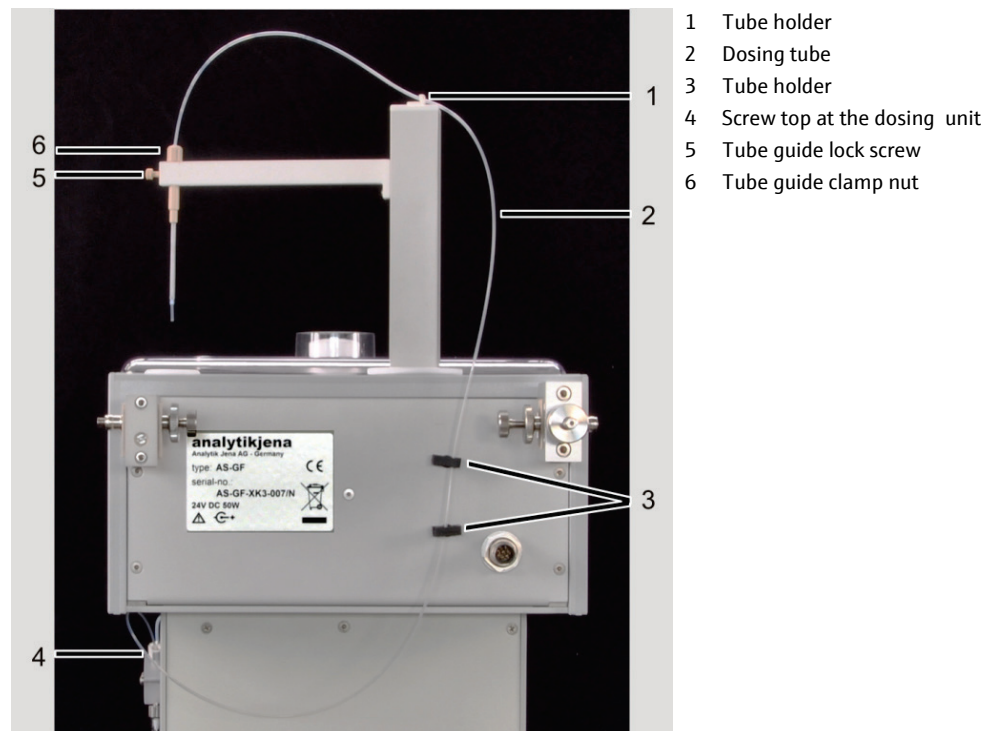

Fig. 65 Dosing tube at the AS-GF
1. Loosen the clamp nut at the tube guide (6 in Fig. 65) and remove the dosing tube by pulling upwards.
1. Loosen the clamp nut at the tube guide (6 in Fig. 65) and pull out the tube. Remove the tube from the tube holders at the sample arm and the back of the autosampler (1 and 3 in Fig. 65).
2. Detach the screw top from the T valve of the dosing unit (4 in Fig. 65).